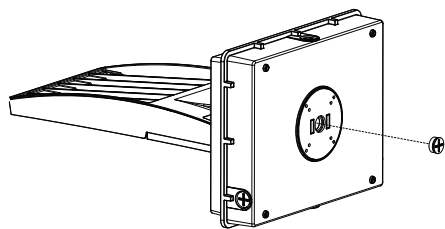

FIG. 1
1. Use a flat head screwdriver to remove the knockout cap from the back of the EM extension box (see FIG. 1).